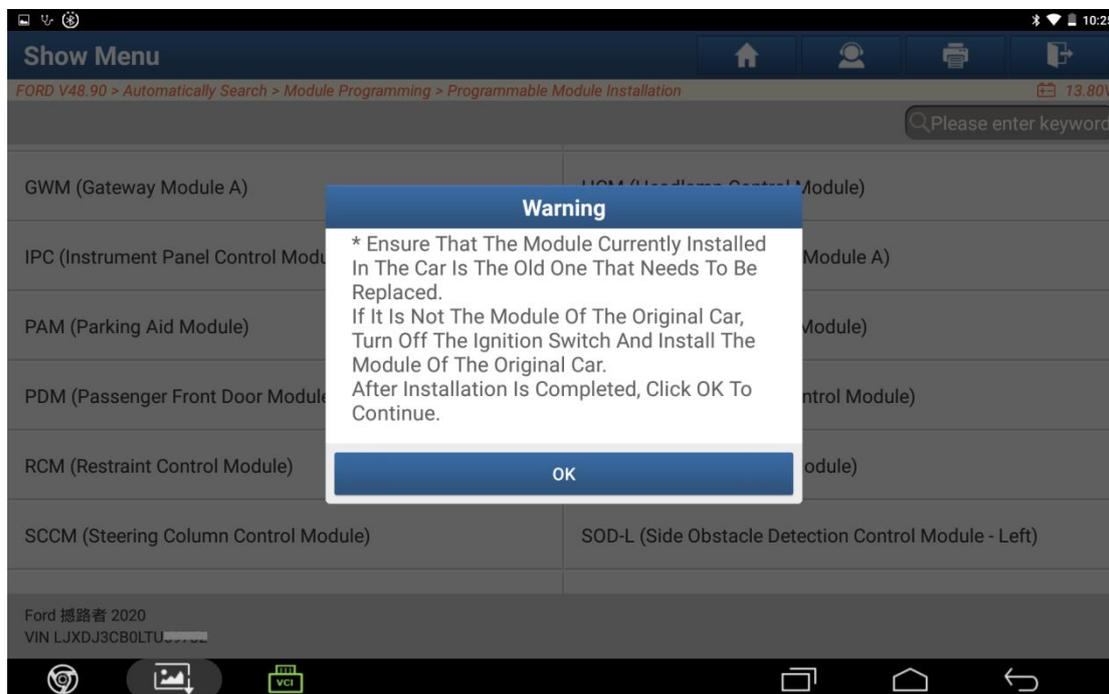

Figure C8
- Prompt to ensure that the module on the current car is the old module to be replaced. If not, turn off the ignition switch, replace it with the module of the original car, and click OK to read the PSCM module data of the original car. See Figure C8.